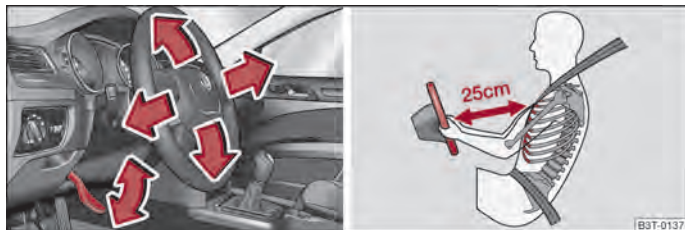

Fig. 114 Adjustable steering wheel: Lever below the steering wheel/safe distance to the steering wheel
- Pull the lever below the steering wheel down ⇒ fig. 114 - left ⇒ ⚠.
- The driver must maintain a distance of at least 25 cm to the steering wheel ⇒ fig. 114 - right. Not maintaining this minimum distance will mean that the airbag system will not be able to properly protect you - hazard!